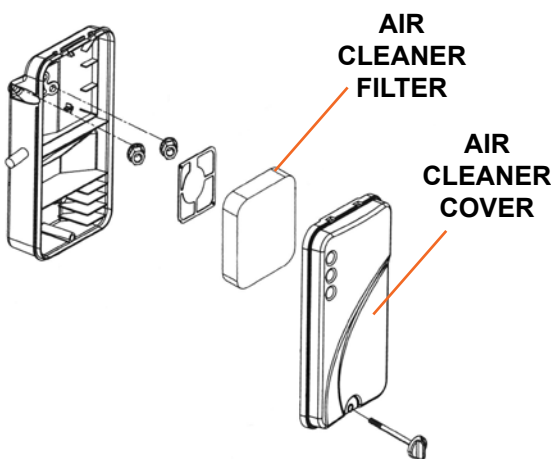

Figure 5
1. Wipe off the air cleaner cover. Loosen the knob at the bottom of the air cleaner housing (see Figure 5).